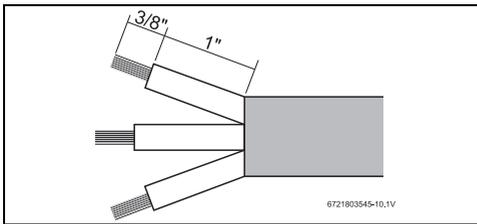

Fig. 5
- ▶ Strip back the outer insulation on the power wires about 1 ³/₈" (35mm) and the conductor ³/₈" (9.5mm) (Fig. 5).